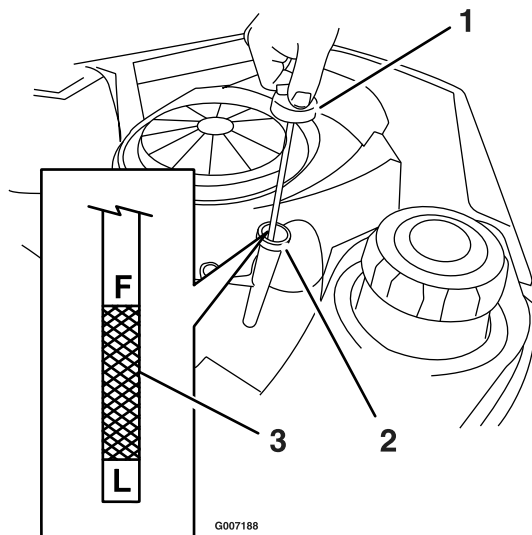
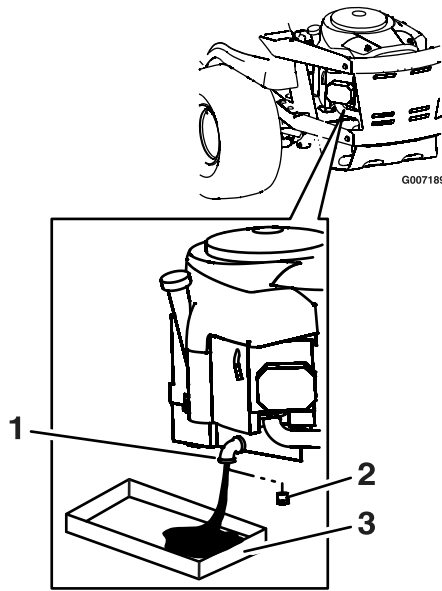

Figure 21
Figure 22
4. Pull and remove the oil fill cap/dipstick; wipe oil off. Reinsert the dipstick and push firmly into place (Figure 21).
4. Clean the area around the drain plug and on the machine frame. Place a pan underneath machine directly below the drain hole in the frame as shown in Figure 22.
5. Remove the oil drain plug (Figure 22). Remove the oil fill cap/dipstick (Figure 21).
8. When the oil has drained completely, install the oil drain plug. Tighten the plug to 14 N-m (125 in-lb) torque. Wipe up any excess oil on the frame (Figure 22).
13. Check the oil level (Figure 21); refer to **Checking the Oil Level**.